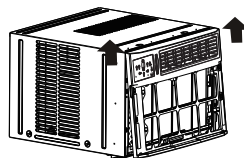

Fig.3A
5. Gently lift front panel off unit (see Fig. 3A).